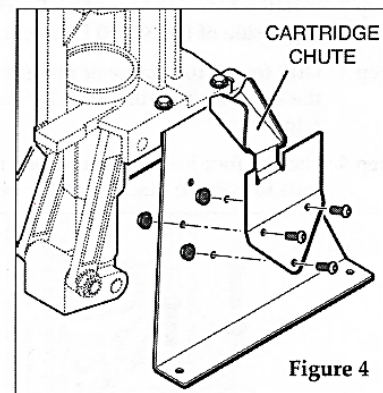

Figure 4
**Step 3** Use the three cap screws and three lock nuts install the ejected cartridge chute as shown in Figure 4.